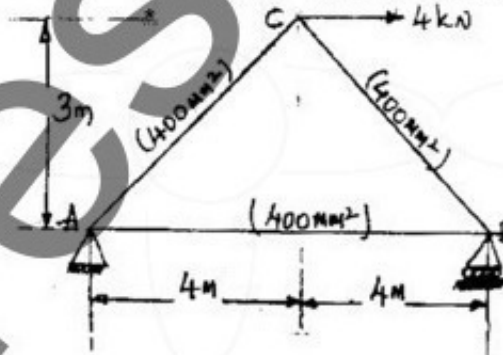

Fig Q8(a)
- 8 a. Determine the vertical deflection at joint 'C'. The cross sectional area of each member of the truss shown in Fig Q8(a), Take $E = 200 \text{ GPa}$, by unit load method.